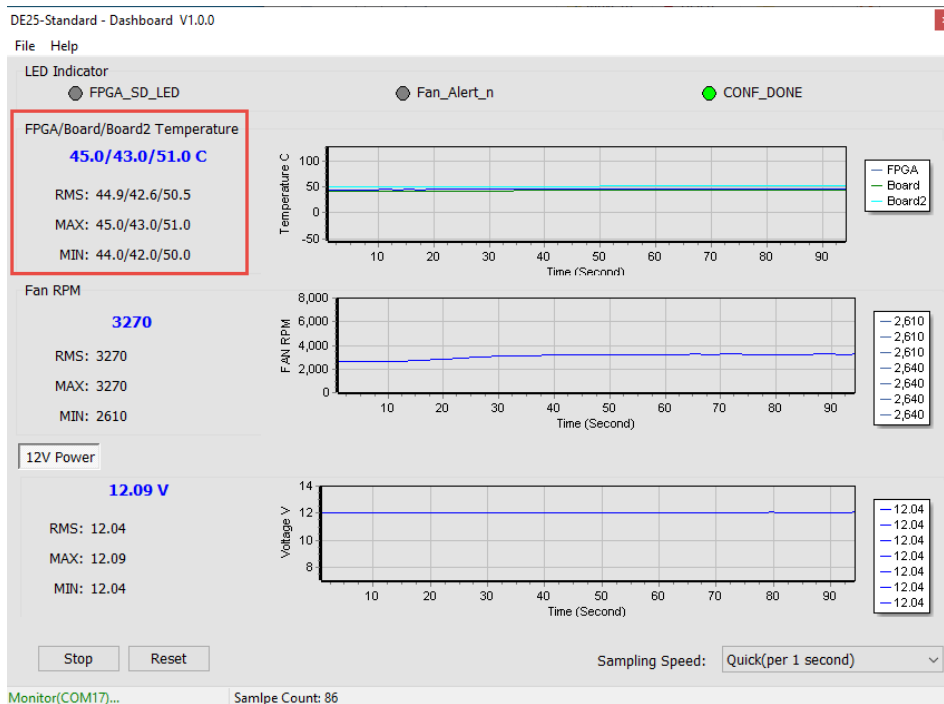
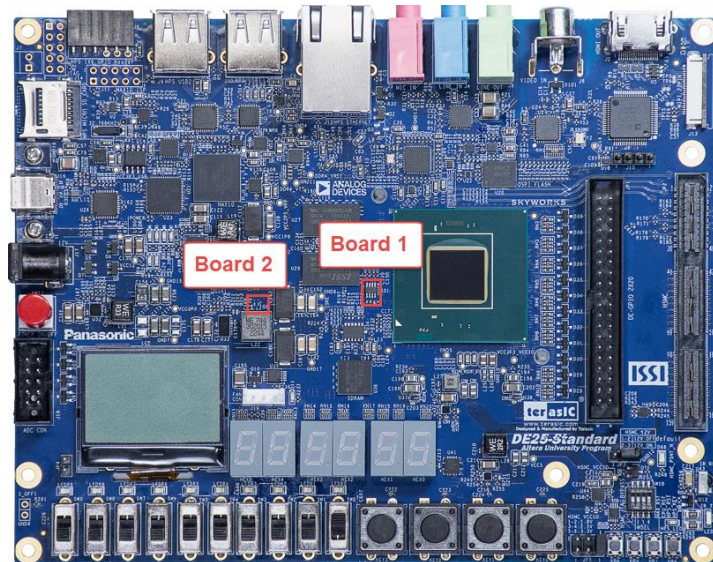

Figure 4-9 Temperature section
Figure 4-10 Location of the board's ambient temperature
- FPGA/Board/ Board2 Temperature:** The Dashboard GUI will real-time show the fan speed, DE25-Standard ambient and FPGA temperature. Users can know the board temperature in time. The information will be refreshed per 1 second, and displays through diagram and number, as shown in **Figure 4-9**. **Figure 4-10** shows the location of the two temperature sensors of Board and Board2 on the GUI.